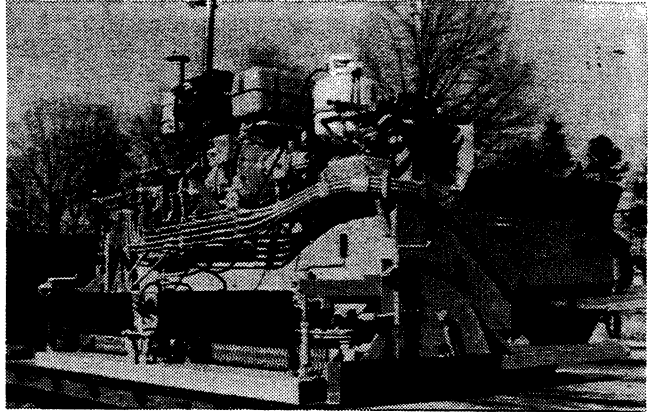

Figure 3-3 – Paver Loaded Position
4. When paver has reached desired position on transport, turn paver 90° sideways as shown in Figure 3-3. Do this by moving one drive control lever to forward position and other drive control lever to reverse position. This will rotate the paver.